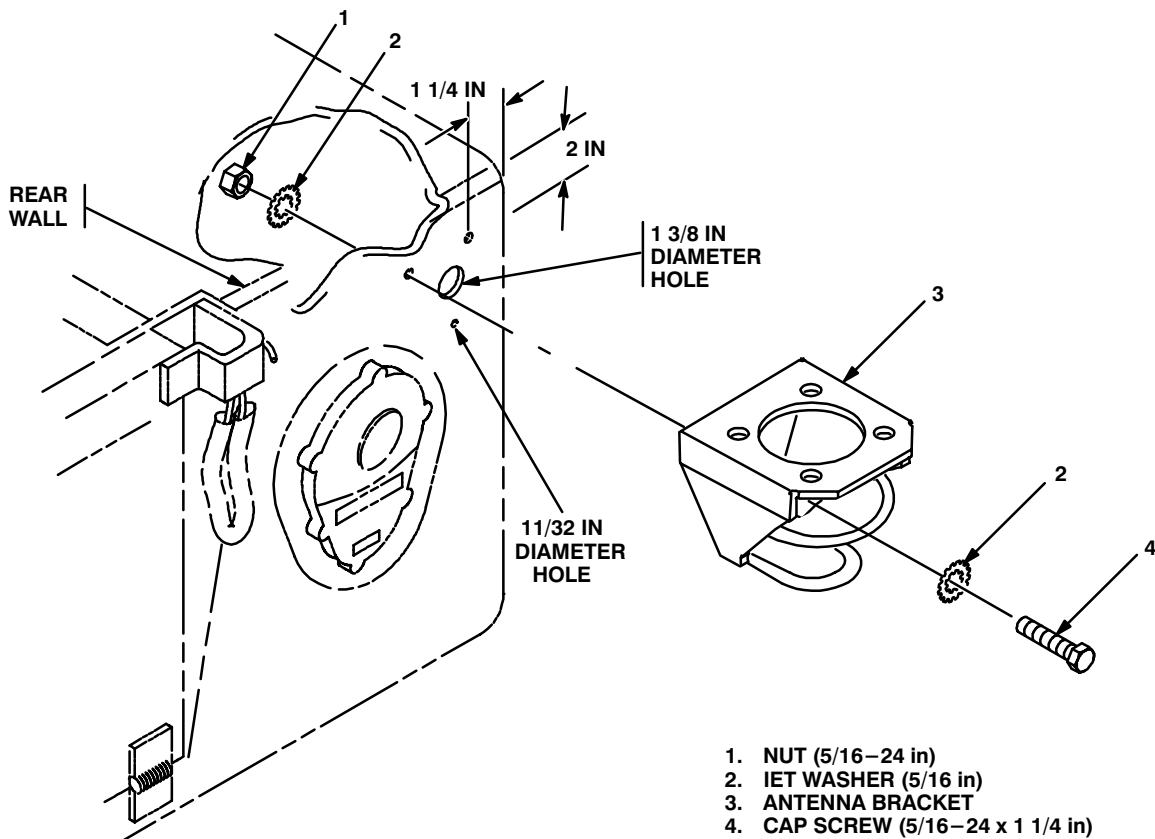

Figure 5-2 (1). Antenna Base Installation: Installing Antenna Bracket
Using antenna bracket (3) as a template and dimensions shown, drill three 11/32 in diameter holes and one 1 3/8 in diameter hole through rear wall of vehicle. See figure 5-2 (1).